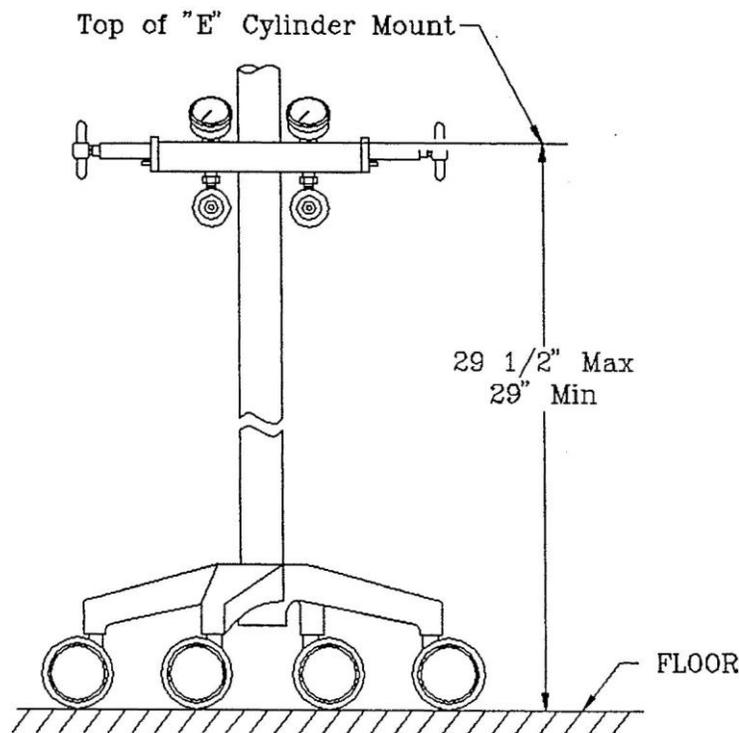

Figure 15
- D. Cylinder mounts must be mounted a maximum of 29 1/2" to a minimum of 29" from the floor. (See fig 15).